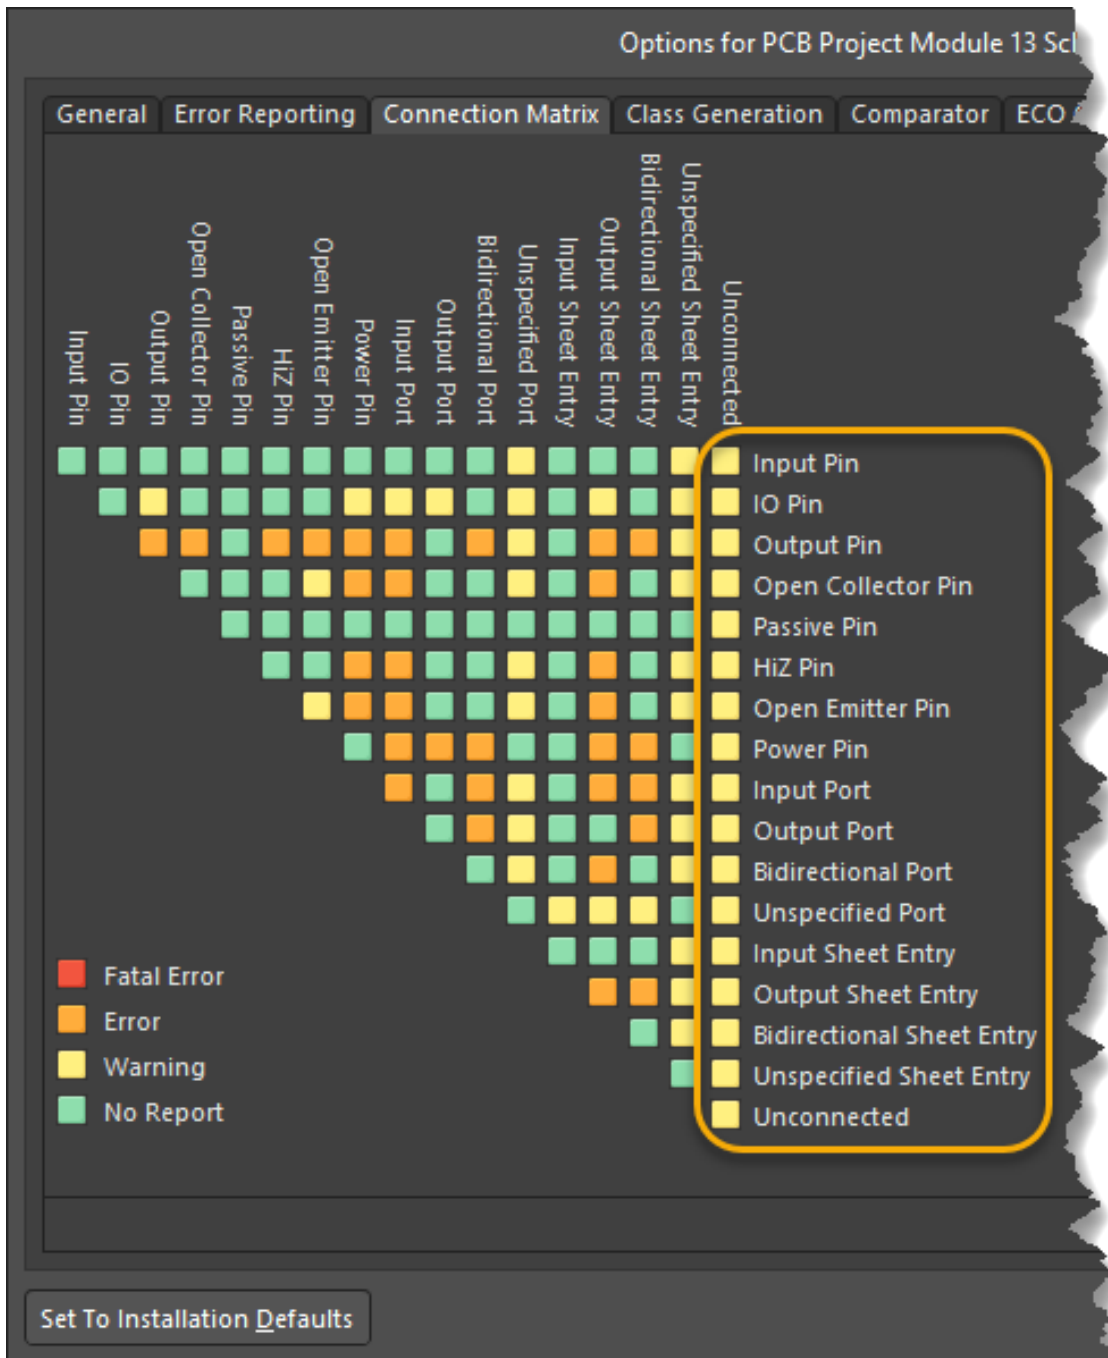

Figure 2. Connection Matrix Tab
11. Select the **Connection Matrix** tab. You can set the reporting mode for connections between different pins, ports and sheet entry types as shown in Figure 2.
12. Set all Unconnected options to Warning as shown in Figure 2.